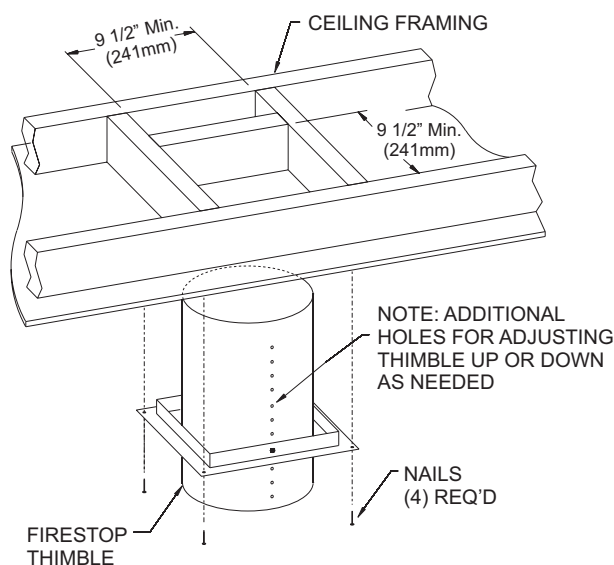

Figure 32
4. Once the fireplace location has been determined, mark the ceiling where the flex vent will pass through. Cut an opening for installation of the firestop thimble assembly. The opening must measure a minimum of 9-1/2" x 9-1/2" square. See **Figure 32**.